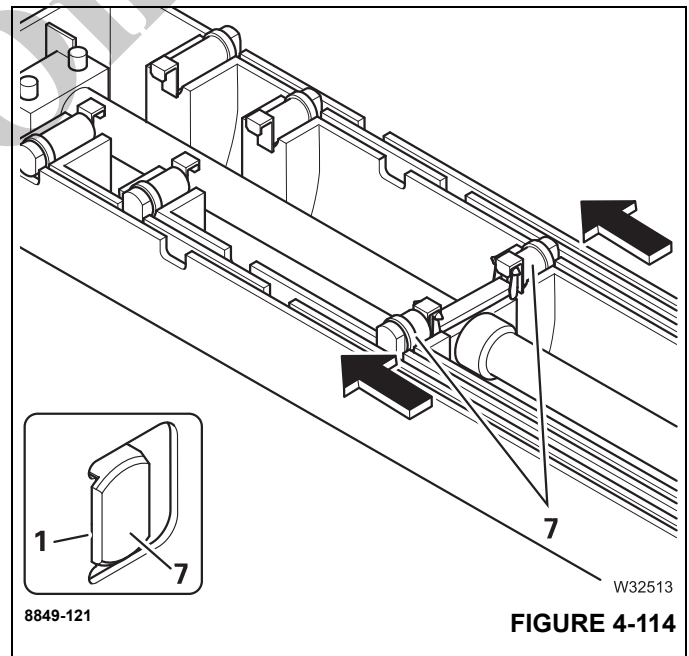

FIGURE 4-114
The telescoping cylinder retracts until the locking pins (7), (Figure 4-114) are positioned on the above telescopic section (1).